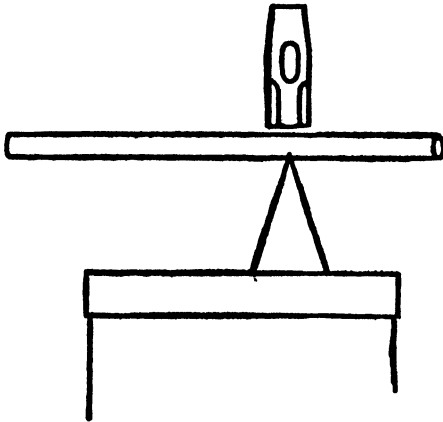

FIG. 13
5. Cut wrought-iron and soft steel under $\frac{3}{8}$ " in diameter by placing it on the hardy and striking with the hammer directly over the cutting edge. When the cut is two-thirds thru, bend back and forth until it breaks off. If the cut is to be finished on the hardy, strike on the far side of the cutting edge when it is nearly finished. Fig. 13.